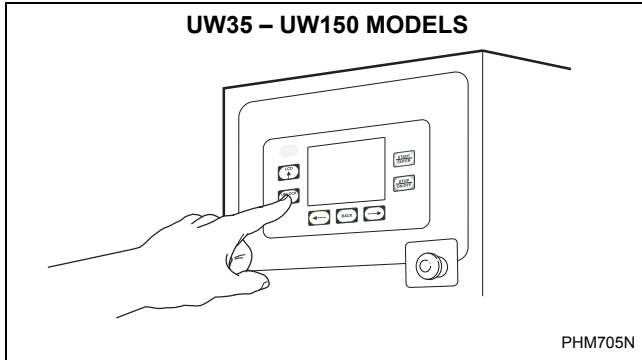

Figure 8
2. Press the door unlock button located on the lower left front on the control. Refer to *Figure 8*.